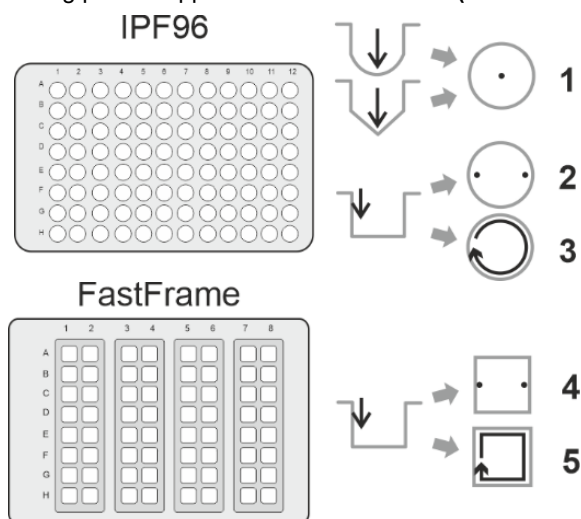

Figure 1. Aspiration methods
3.2.2. Inteliwasher **3D-IW8** includes **50 programs** divided into five aspiration categories (Figure 1):